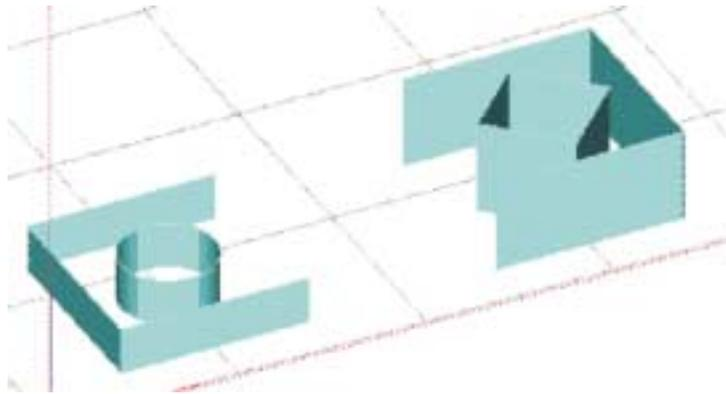

Figure A-6. After elevations are assigned in FlowPATH 6.0
- Highlight the drawing section and click the Absolute elevation icon . After each part has an assigned elevation, an isometric view will appear (see Figure A-6).